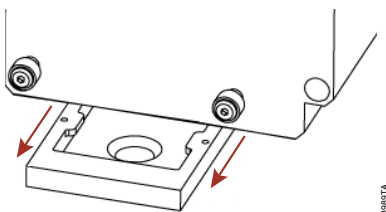

Figure 26. Grasp the sides of the optical mask and pull it towards you, being careful to not touch the bottom of the optical head as the mask is removed.
- Place your hand under the optical mask. Grasp the sides of the optical crosstalk mask and pull it towards you (Figure 26).